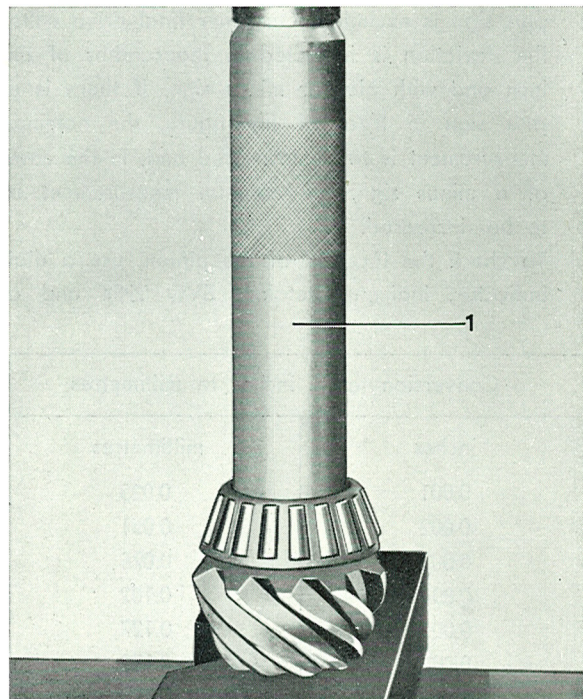
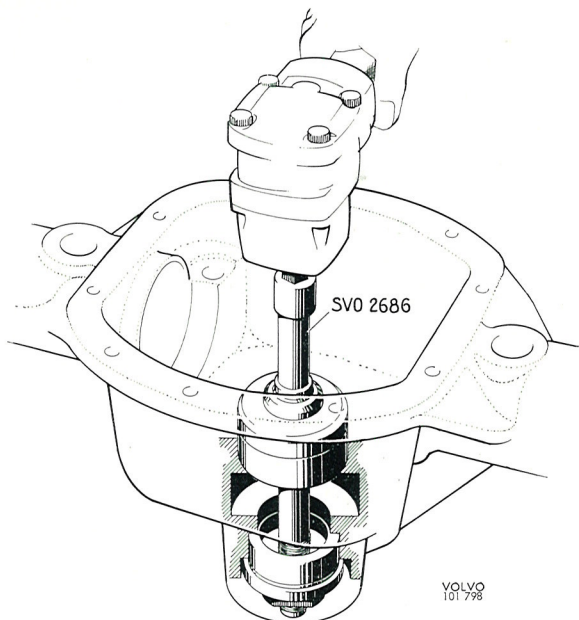

Fig. 4-112. Fitting the rear pinion bearing
Fig. 4-113. Fitting the bearing races
4. Press the rear bearing on the pinion with sleeve SVO 2395, see Fig. 4-112. N.B. The washer under the rear bearing inner ring on a Volvo final drive must **not** be fitted when reconditioning. Place on the measured shims and press in both the outer rings of the bearings with tool SVO 2686, see Fig. 4-113.